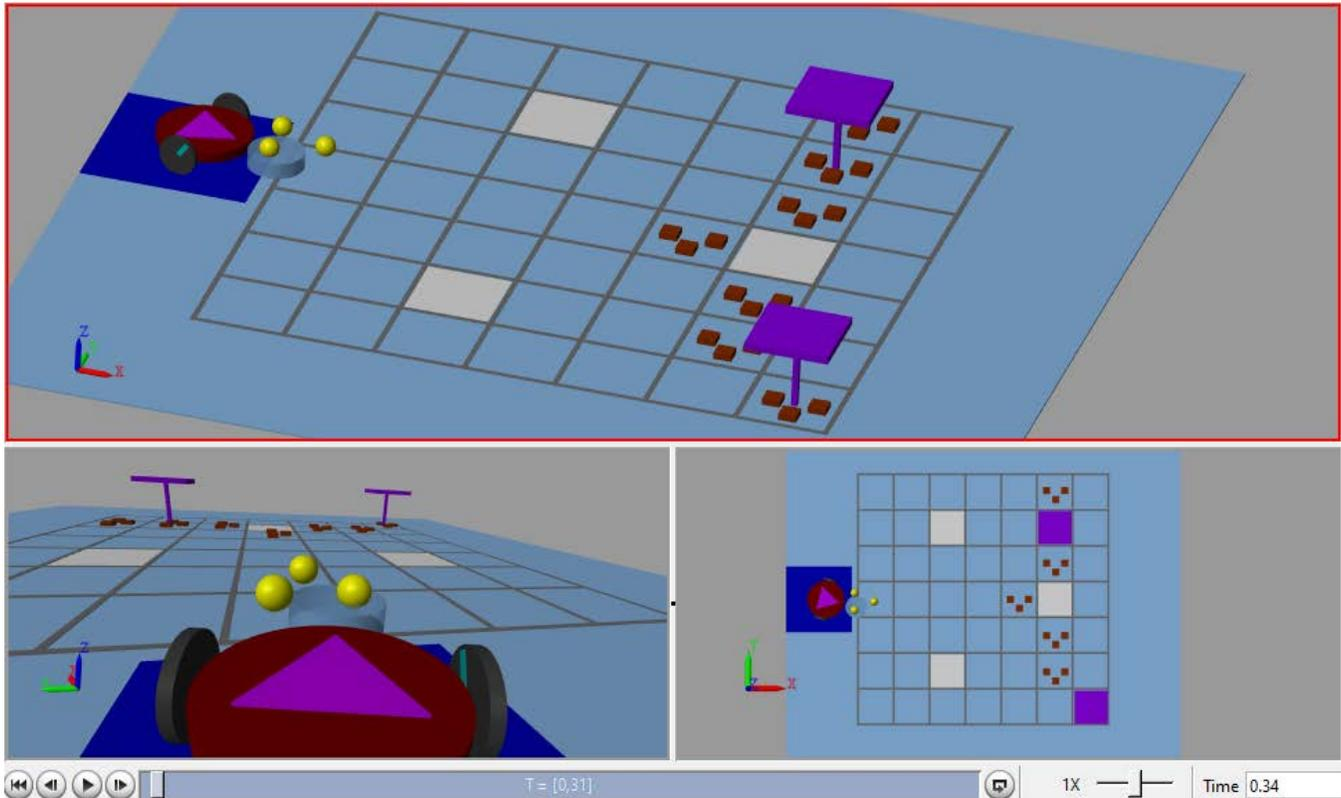

Figure 3.15. Virtual Game Field
When teams participate in time trials within the **Outbreak Online Competition**, they will play the game on a virtual field as shown in Figure 3.15. This section describes the differences in game play and scoring related to the time trials performed in the Outbreak Online Competition.
- h. A playback speed of 1X will be used for all competition time trials, as shown in Figure 3.15.